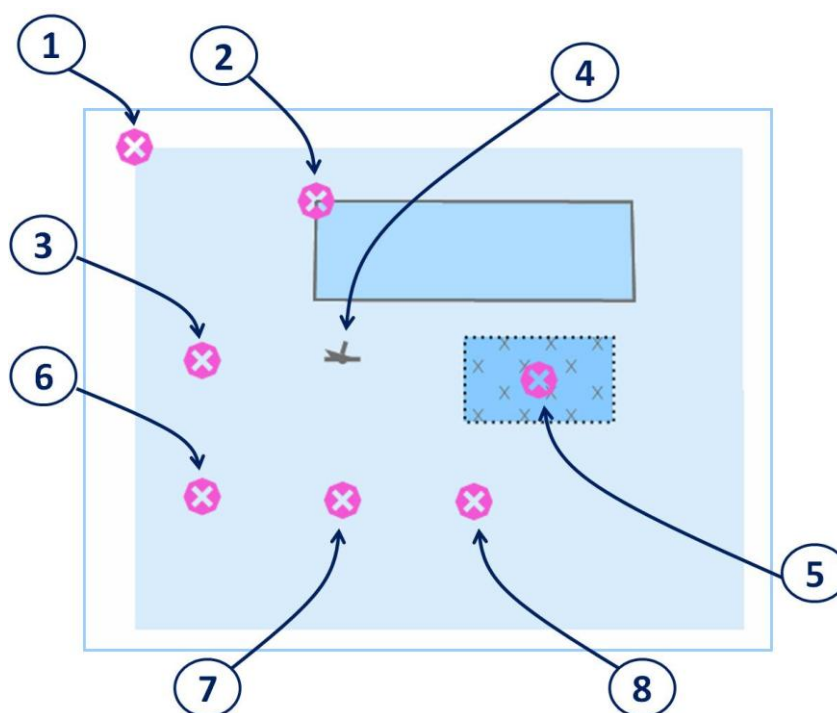

Figure 4 - Correct display of isolated dangers in STANDARD mode with a 10m safety contour/safety depth setting
With the ECDIS set up according to the list in paragraph 2.7 and zoomed to a scale of approximately 1:20,000, you should see various symbols for "*isolated underwater danger of depth less than the mariner's selected safety contour*" (1), (2), (3), (5), (6), (7) and (8) and a symbol for "*wreck showing any portion of hull or superstructure at level of chart datum*" (4). They should appear as shown in Figure 4:
What should you do if your ECDIS does not show the symbols as they are shown in Figures 4, 5 or 6?